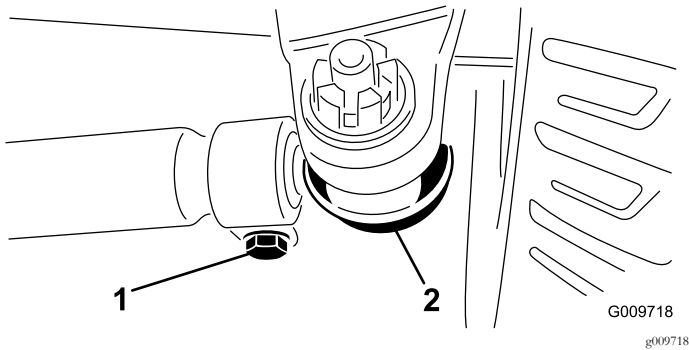

Figure 62
2. To adjust, remove the cotter pin and nut from either tie rod ball joint (Figure 62). Remove the tie-rod ball joint from the axle-case support.
3. Loosen the clamps at both ends of the tie rods (Figure 62).